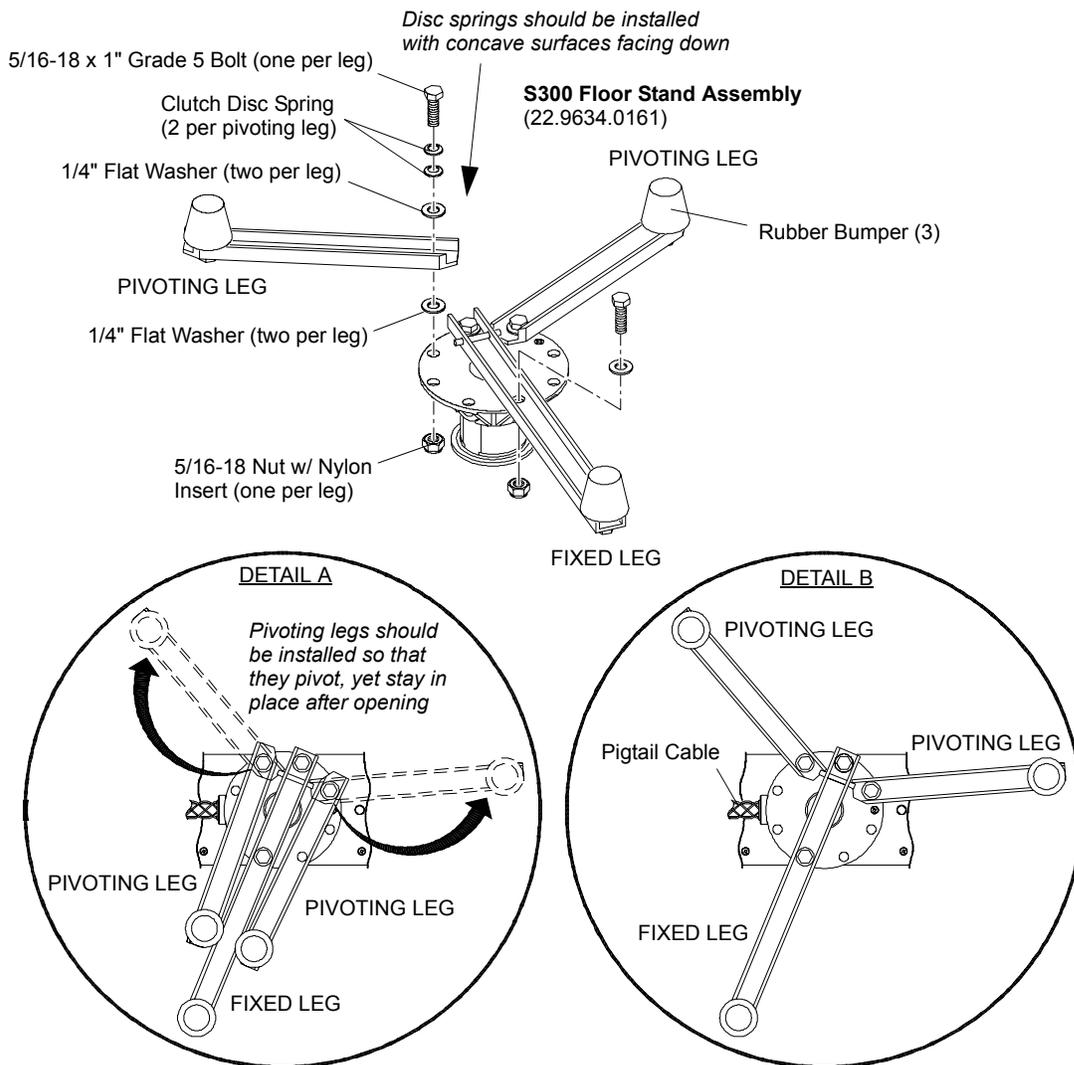

Figure 2-5: Installing Floor Stand
The VL6C+ Spot Luminaire may be mounted in an upright floor position using a Series 300 floor stand. The floor stand (22.9634.0161) includes all necessary hardware as shown in **Figure 2-5**.
- Step 1. Orient pigtail cable as shown in **Figure 2-5** DETAIL B and rotate pan tube accordingly.
- Step 3. Tighten nuts and bolts until there is proper tension: just enough so pivoting legs stay in place, but not so much that the legs don't pivot. See **Figure 2-5** DETAIL A.